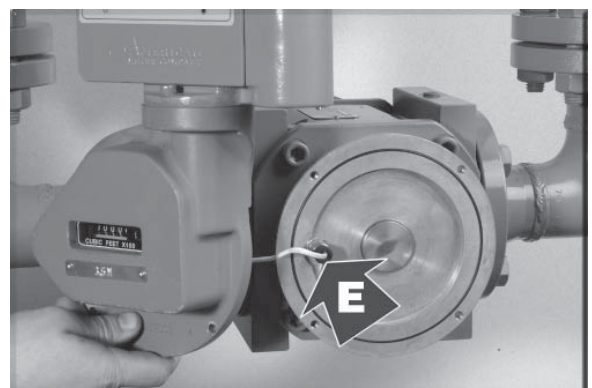

Fig. 7 Removing Temperature Probe
- **CAREFULLY** remove register cover while sliding temperature probe (Fig. 7 “E”) out of the thermowell. Most units should have rubber grommet on temperature probe holding it in the thermowell. *NOTE: If the probe is held in with a set screw, loosen the set screw to slide temperature probe out of the thermowell. Removing the probe rather than disconnecting it from the ETC protects the ETC from probe faulting. A probe fault will occur if the Badger switch pulses or the battery is disconnected while the probe is disconnected. If a probe fault occurs, the TCDAS Software will be required to reset the ETC.*
- Slide the temperature probe into the thermowell and secure the rubber grommet in the thermowell or snug the set screw (Fig. 7 “E”).